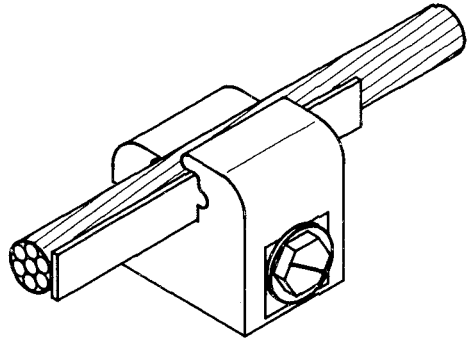

Fig. 1—J Connector—Bonding Ribbon to No. 1/0 Ground Wire Connection
- 3.02 The J connector and the methods of making connections are illustrated in Fig. 1 and 2.